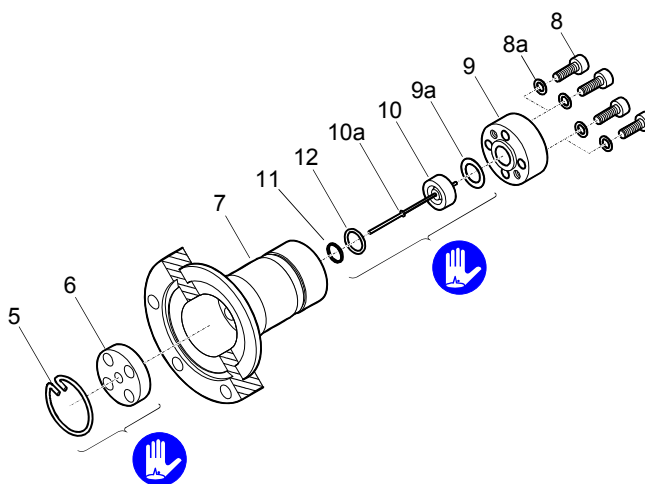

Figure 4c
- 1 Insert a new metal seal (11) incl. the centering ring (12) centered into the measuring chamber. Make sure the seal and ceramic are clean (→ Figure 4c).
- 2 Carefully insert the anode (10) incl. ignition aid (10a) into the measuring chamber.
- 3 Place the washer (9a) and pressure piece (9) on the measuring chamber and secure them by **uniformly** tightening the four screws (8) incl. lock washers (8a) until the mechanical stop is reached.
- 6 Slide the polarity insert (6) into the measuring chamber until the mechanical stop is reached.
- 7 Place the circlip (5) snugly fitting on the polarity insert.